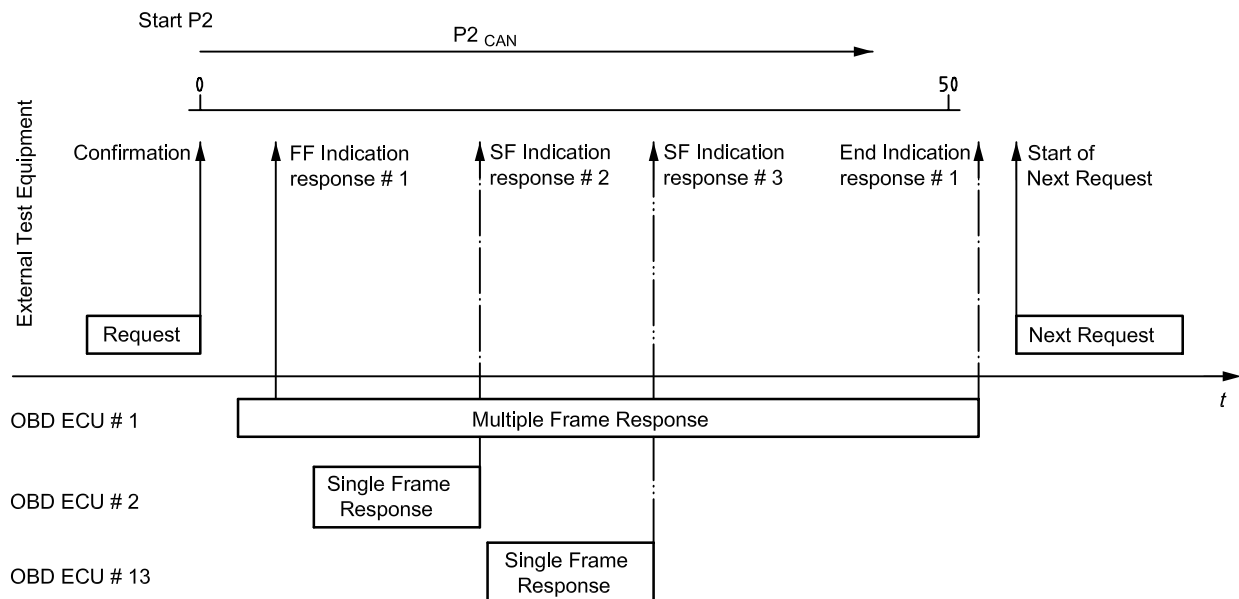

FIGURE 7 - ISO 15765-4 APPLICATION TIMING PARAMETER (SINGLE AND MULTIPLE FRAME
Figure 7 shows an example of a request message followed by two (2) single frames, one (1) multiple frame response message and another request message. The next request message can be sent immediately by the external test equipment after completion of all response messages in case the transmission of the response messages takes longer than  $P2_{CAN}$  even if the external test equipment does not know the number of responding ECUs.